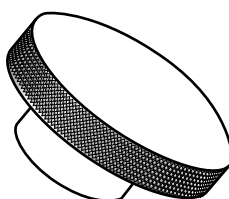

Fig. 2
- 5 Fig. 2 shows a metal handle with a textured finish on its edge.